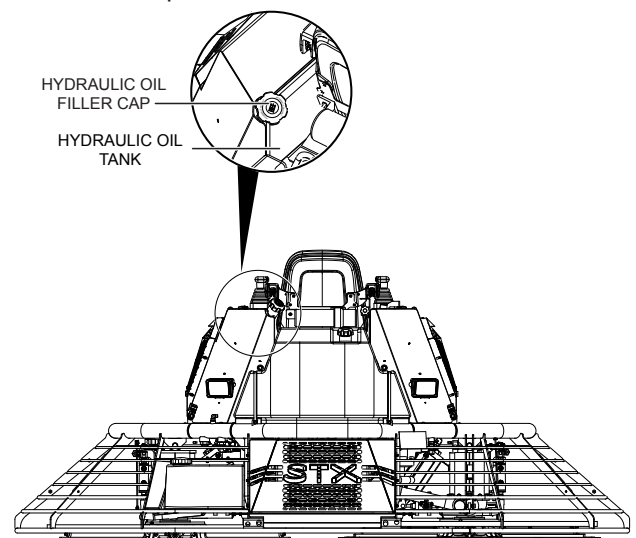

Figure 15. Hydraulic Oil Check And Fill
2. Visually inspect the hydraulic oil tank (Figure 15). For normal operation the fluid level should be visible when the filler cap is removed.